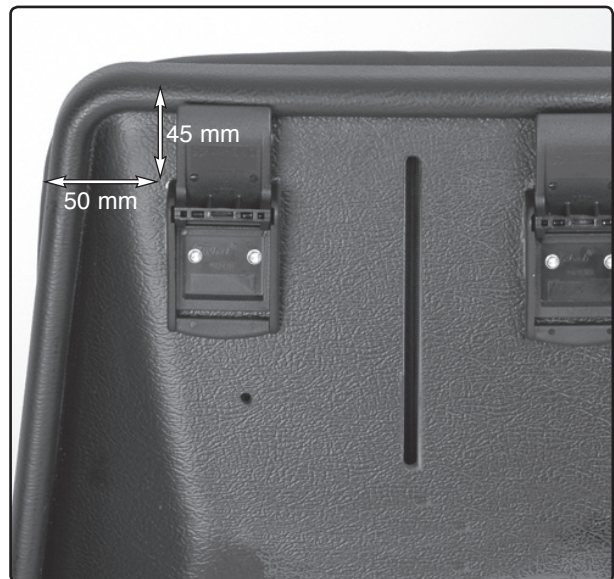

Fig. 1. Mount the fixlock brackets on the seatback
1. Place the fixlock brackets according the measurements in *fig. 1*. Use the bracket as a template to make marks for the drill holes. Drill with $\varnothing 5,2$ mm drill. Mount the two fixlock brackets on the seatback with four M5x16 screws and washers, see *fig 1*. Screw the screws from the front side of the seatback.